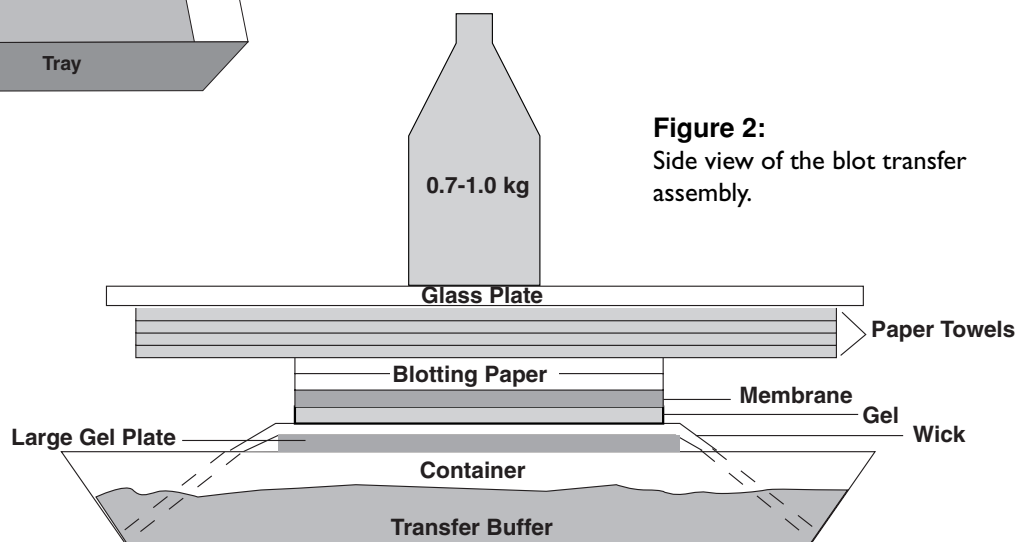

Figure 2:
2. Cut wick to width of gel and length to overhang from edge of tray to within 1/8" edge of tray bottom (Figure 2).
9. Place a 6 cm stack of paper towels on top of blotting paper. Finally, place a 1 kg weight on top of stack to complete assembly, as shown in Figure 2.